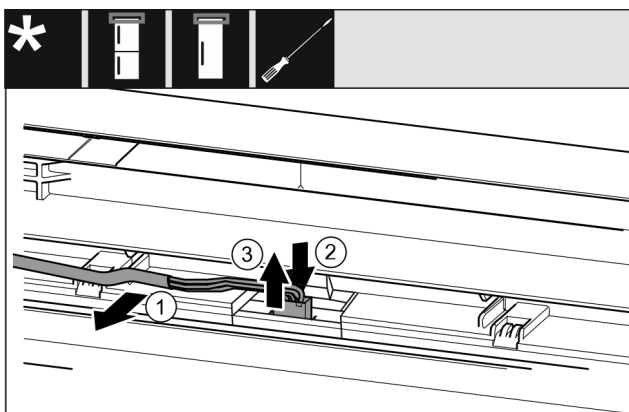

Fig. 24 Fridge/freezer combinations / freezers / refrigerators*
- ▶ Release the cable Fig. 24 (1) from the guide in the door carefully.*
- ▶ Push the tab Fig. 24 (2) behind the plug backwards.*
- ▶ Pull the plug Fig. 24 (3) out upwards carefully.*